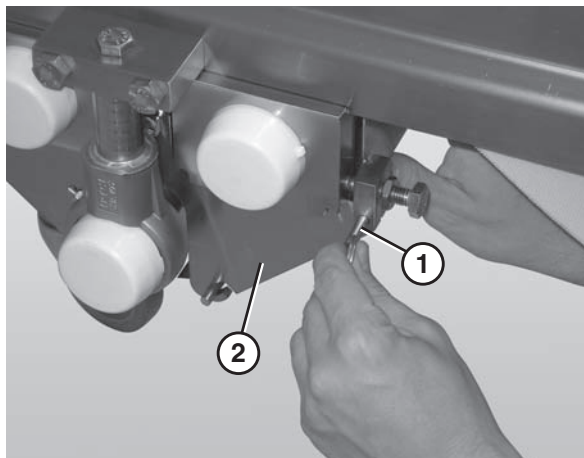

Figure 44
2. Remove the pull pins (**Figure 44, item 1**) from the center drive side plate (**Figure 44, item 2**).